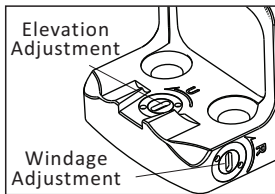

Fig 6
- 3) Adjustment can be performed by inserting the flat tipped end of the included tool into the turret slot and rotating, See Fig 6.